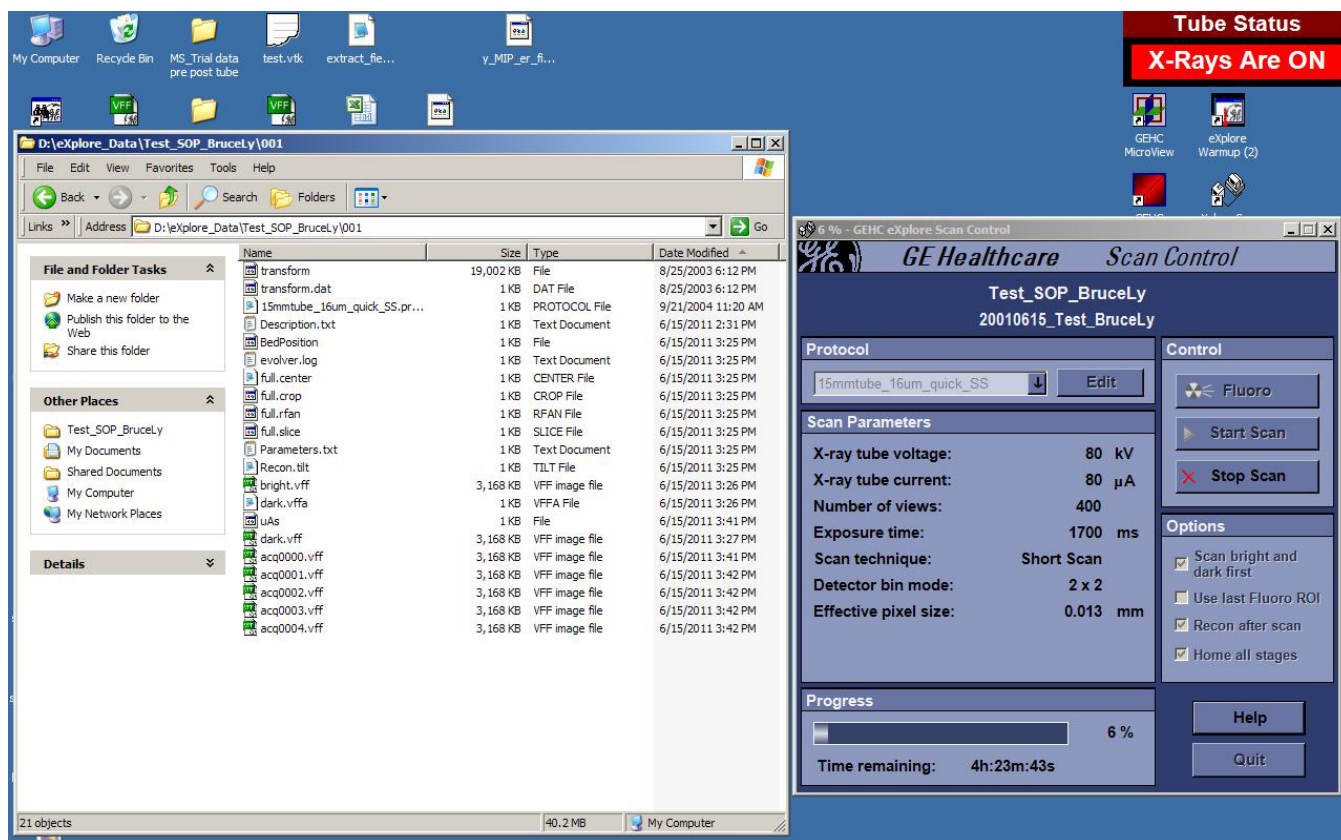

Figure 12: Collecting bright.vff and dark.vff files
- 7.4.4.10. Click **OK** when done. Press **F5** approximately a couple times per second repeatedly, with the eXplore directory window selected and open until the desired bright field file is seen (*bright.vff*) (see Figure 12).
- 7.4.4.12. Press **F5** repeatedly again with the eXplore directory window selected and open until the **GEHC Evolver** window appears, and the desired darkfield file is seen (*dark.vff*, see Figure 12). Don't click **OK**.